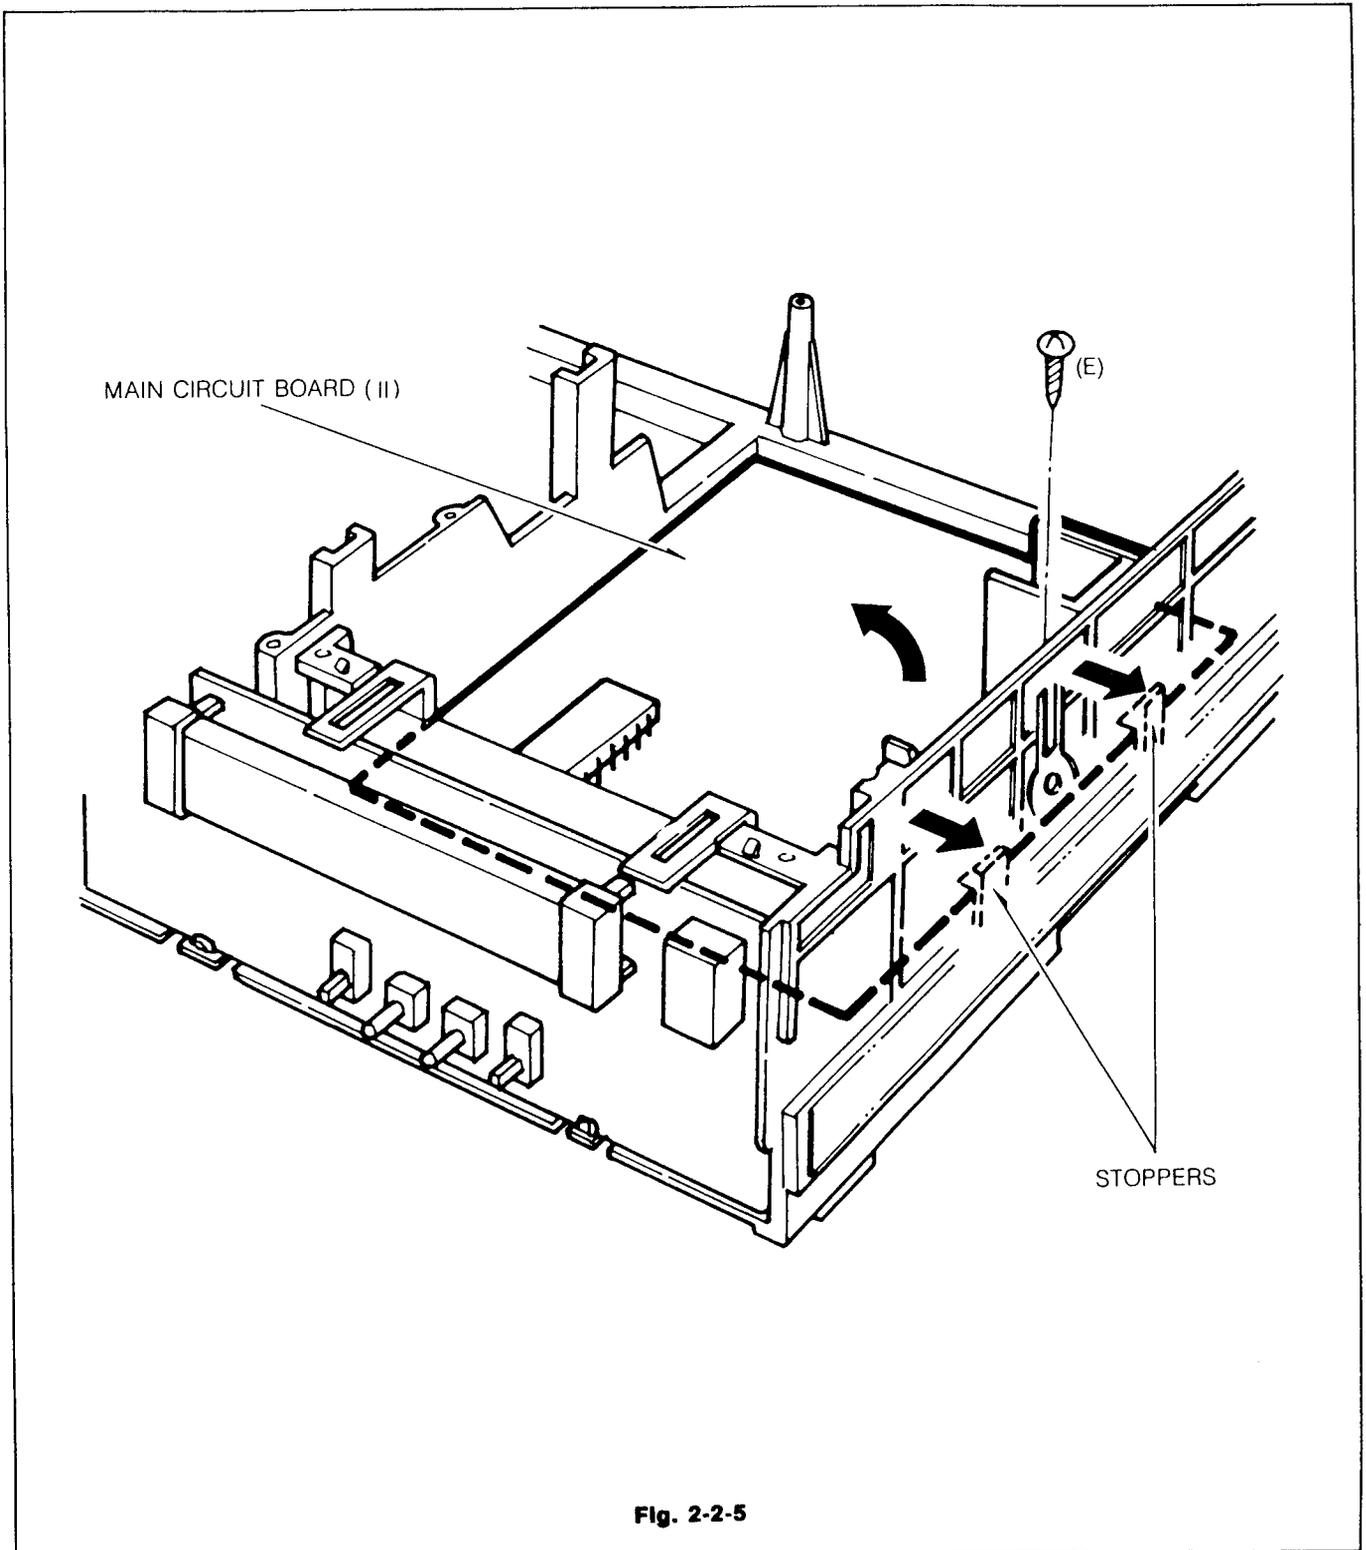

Fig. 2-2-5
- A. Remove one screw (E).
- B. Press two stoppers in the directions of the arrows to disengage and then lift up the Main circuit board to remove it. (See Fig. 2-2-5)